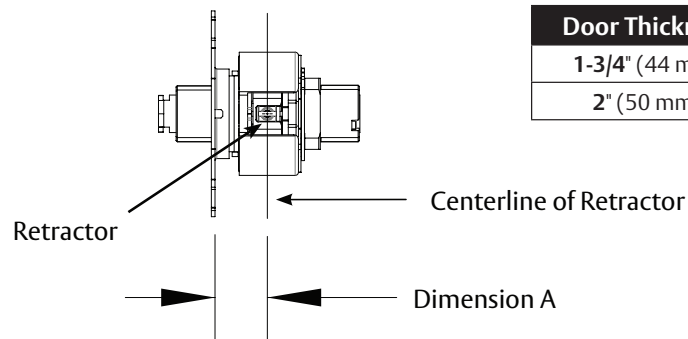

Figure 6
2. Rotate outside rose liner to adjust lock to fit door thickness, so distance (Dimension A) from inside surface of liner to centerline of retractor is half the thickness of the door. (See chart and Figure 6)